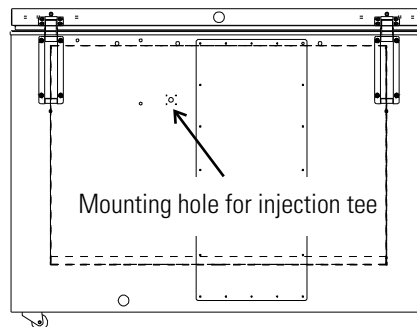

Figure 6-1. Mounting location
1. Locate the mounting hole for installing the injection tee assembly. See Figure 6-1.